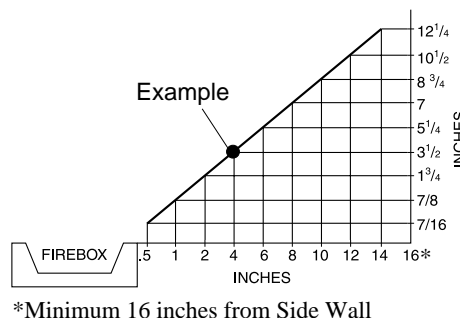

Figure 8 - Minimum Clearance for Combustible to Wall
- A. Clearances from the side of the fireplace cabinet to any combustible material and wall should follow diagram in Figure 8.
Example: The face of a mantel, bookshelf, etc. is made of combustible material and protrudes 3 1/2" from the wall. This combustible material must be 4" from the side of the fireplace opening (see Figure 8).